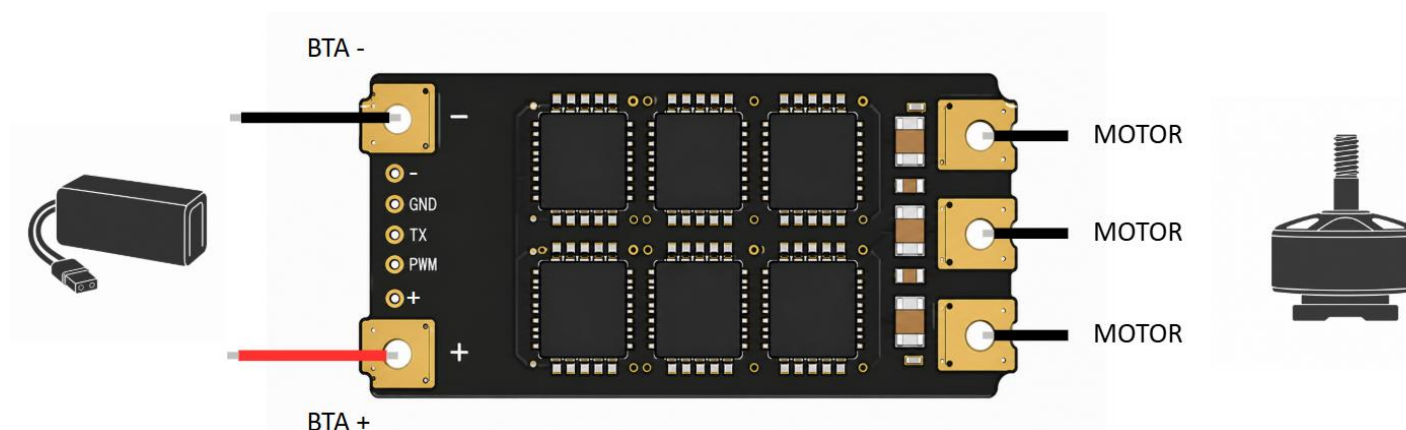

Fig.2. Wiring diagram
The ESC has 3 output pads for a single motor, located along the right edge of the board (see Fig. 2).
- Motor wires: Connect the three phase wires from your motor to the three output pads (see Fig. 2). Wire order does not matter for the ESC itself — it only affects spin direction.